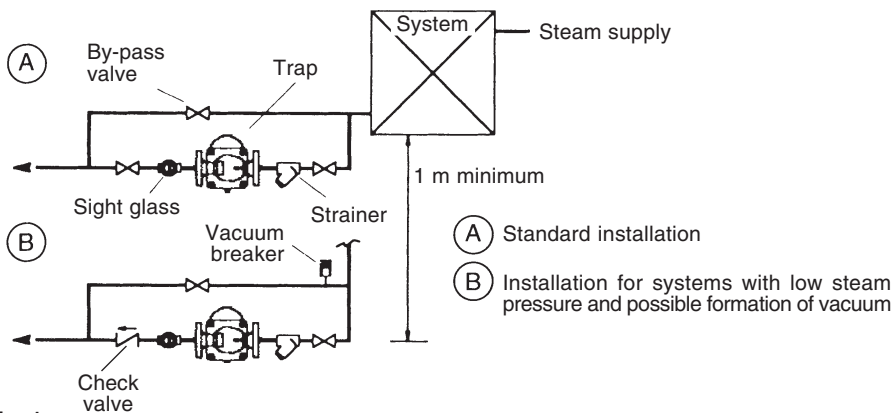

Fig. 1
- 3.8** If the device to be drained is fitted with automatic temperature control, apply a vacuum breaker in addition to the hydrostatic head (see Fig. 1).